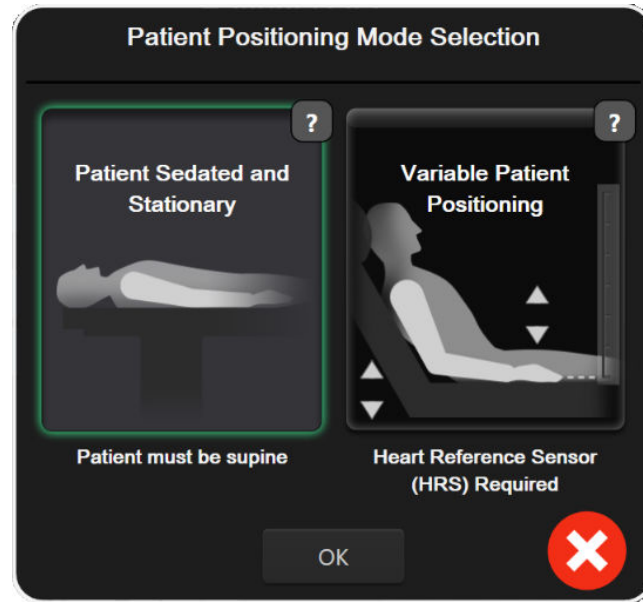

Figure 11-5: Patient Positioning Mode Selection – Optional HRS
**Optional HRS** is an advanced feature that must be enabled. If this feature is enabled, steps vary from how described previously in Heart Reference Sensor on page 202. The HemoSphere noninvasive system finger cuff algorithm must account for differences in pressure due to the change in vertical level of the monitored finger relative to the heart. This can be performed in one of two ways on the **Patient Positioning Mode Selection** window (see Figure 11-5 on page 212):